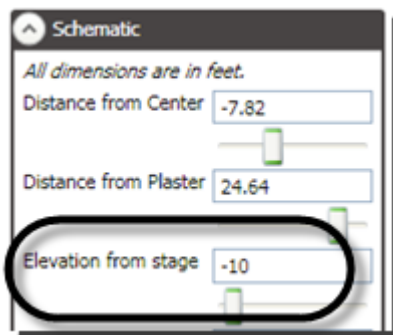
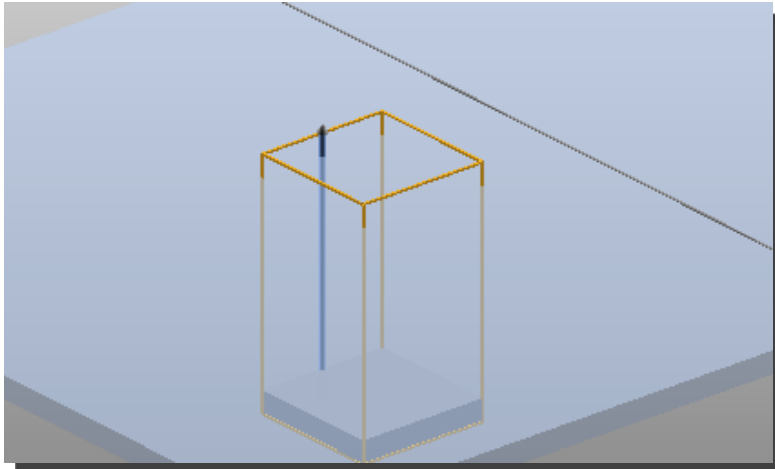

Figure 194
Figure 195
5. Using the **Elevation from stage** field, position the Lift so that it travels into the trap room (Figure 194 and Figure 195).